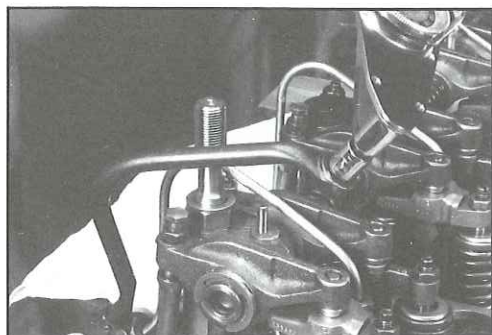

Fig. 25
2. Install the fuel lines on the engine. First, hand tighten the retainer nuts. Next tighten nuts using the Caterpillar fuel line socket wrenches to 30 lbft. (41 N•m). See Fig. 25.